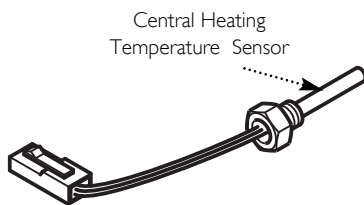

Fig. 82
14.8 Central Heating Temperature Sensor (NTC) (Fig. 82)